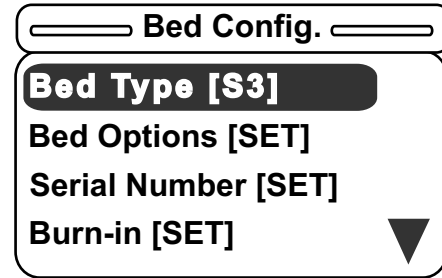

Figure 60 – Bed Config. menu
33. After you set all of the Bed Configuration items, the main screen displays (Figure 60).